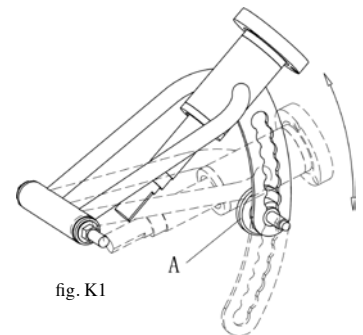

fig. K1
K. Steering Adjustment (see fig. K1)